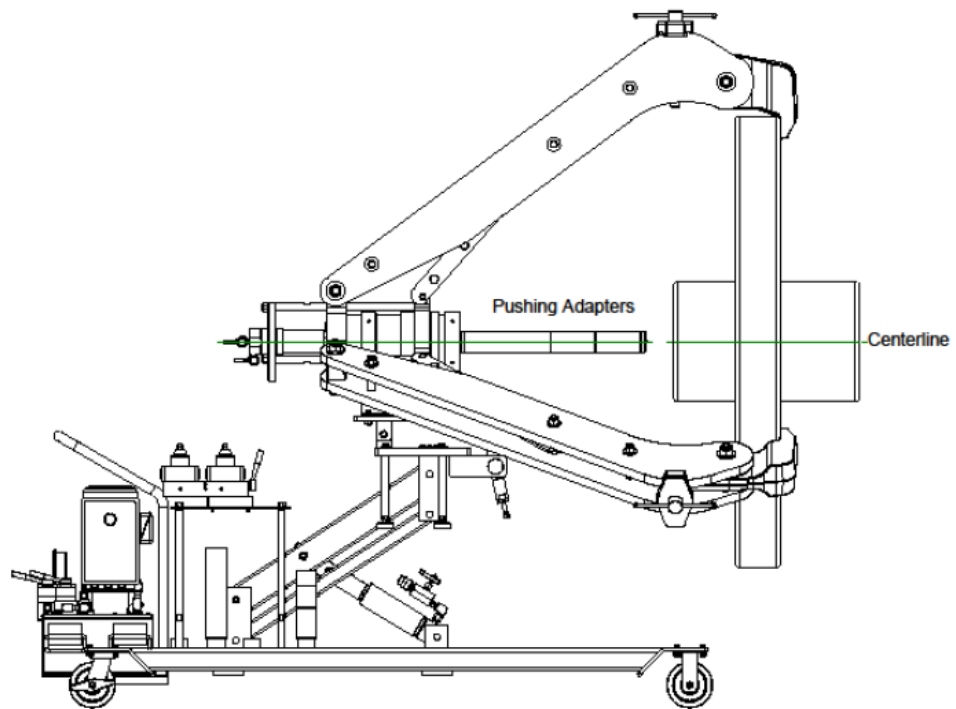

Figure 6 – Adding Adaptors
5.2.7 Add as many adaptors as practical to the forcing cylinder (see Figure 6).